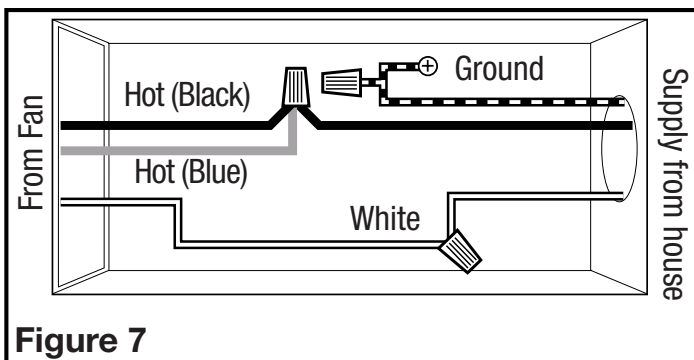

Figure 7
- 2a. From where you have access to inside the fan's junction box, connect the one white wire from the house to the white wire from the fan. Connect the black wire from the house to both the black and blue wires from the fan. Connect the ground wire from the house to the green wire from the fan (**Figure 7**). Use approved methods for all connections.